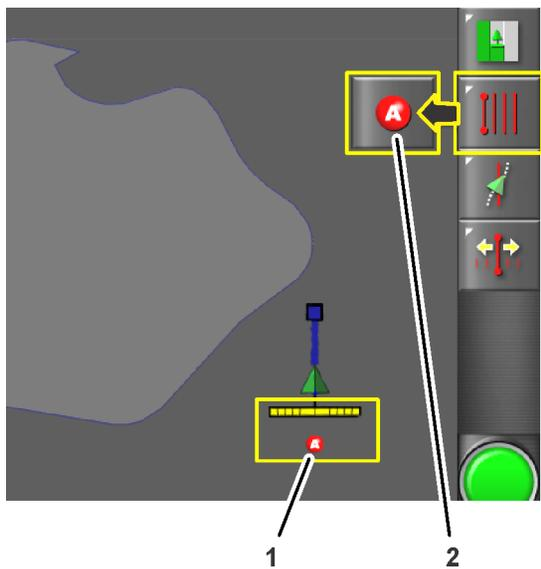

Figure 12
5. Press the set point A icon (Figure 12).